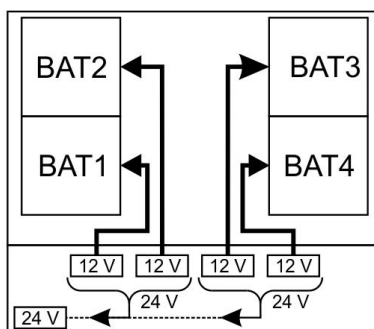

Fig. 5. Battery connection.
2. Connect the batteries with the battery wires paying attention to the polarity (+ BAT red, -BAT black) and the. The connections between the batteries were factory made, as shown in Fig. 5.